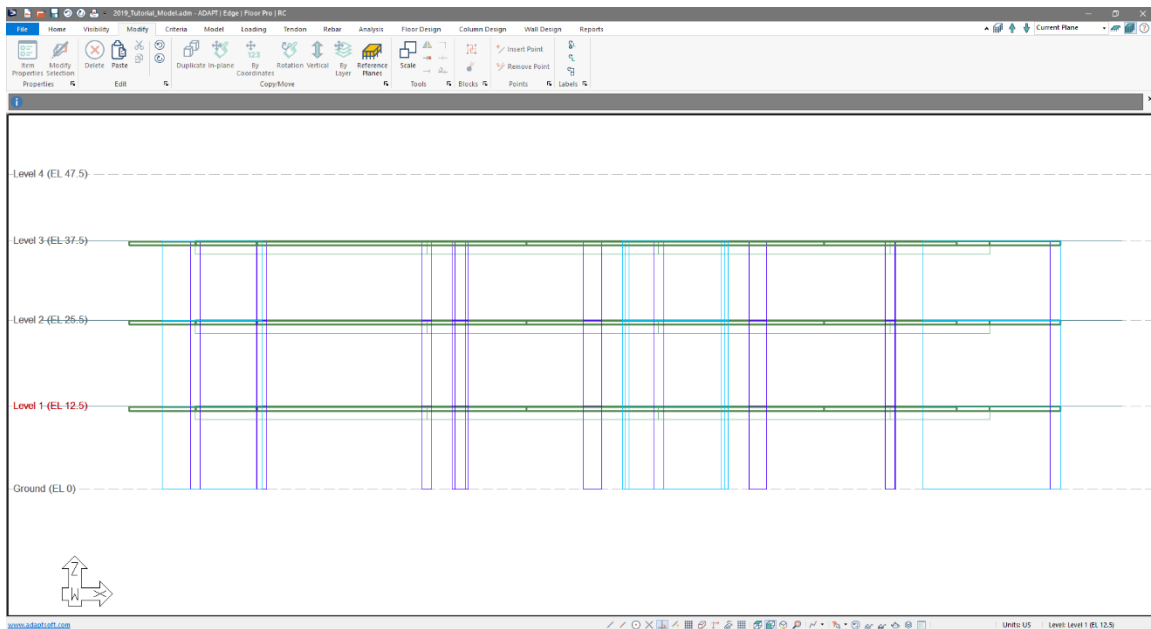

Figure 3-5
- Click on the *Front View*  icon in the **Lower Quick Access Toolbar**. This will bring you to the view of the model shown in **FIGURE 3-5**.